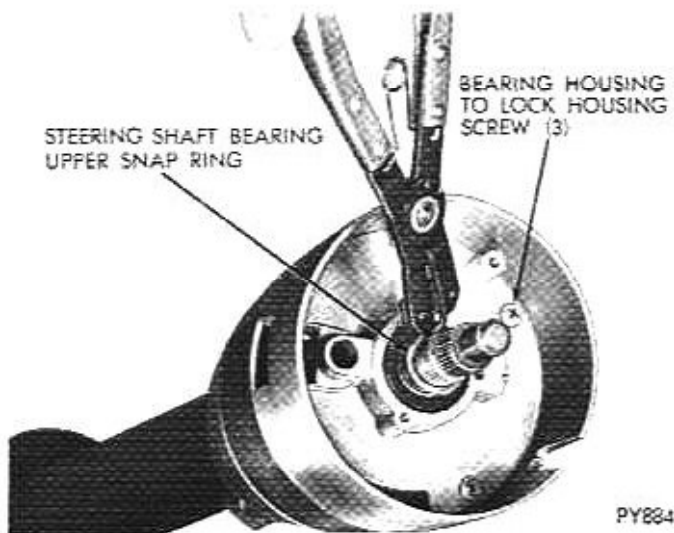

Fig. 7—Steering Shaft Bearing Upper Snap Ring
(7) Remove snap ring from upper end of steering shaft (Fig. 7).